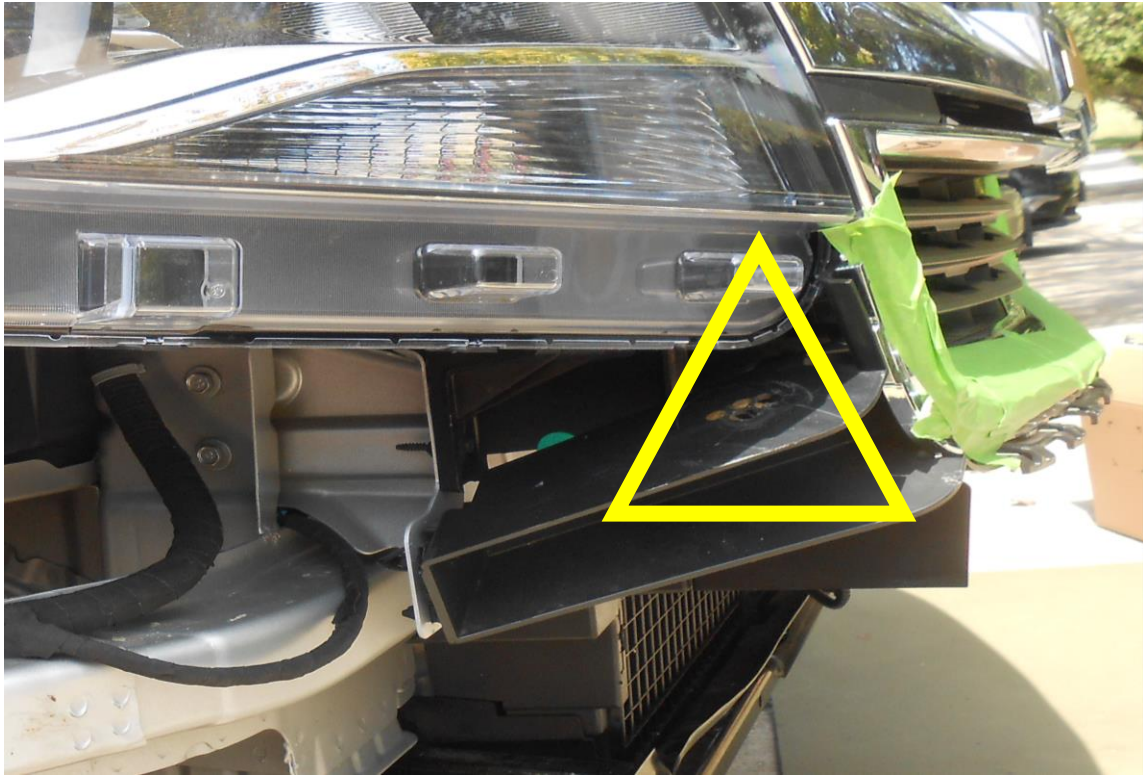

Figure 5d (mount point on plastic grill mount)
- E. Pulling wheel well liner back, place valence in position (ref 5b), with another person holding valence in place, run bolts up through holes indicated by the triangles in Figure 5d. Hand tighten bolts.**
- F. Line up valence mount with previously drilled hole, insert bolt, and hand tighten (ref 6a-b).**
- G. Using a 7/16 wrench and ratchet wrench, tighten bolts running through the fender. Once valence is positioned properly at grill, tighten bolts running through valence mount (ref 6c).**